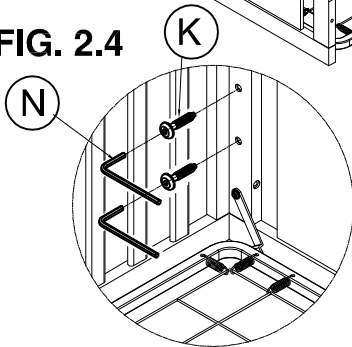

FIG. 2.3
- Insert the 8 (eight) allenbolt 5/8" (15 mm)(K) into the exposed threaded holes on side frame as shown in FIG.2.3 & 2.4.
- Tighten all bolts with allenkey (N).